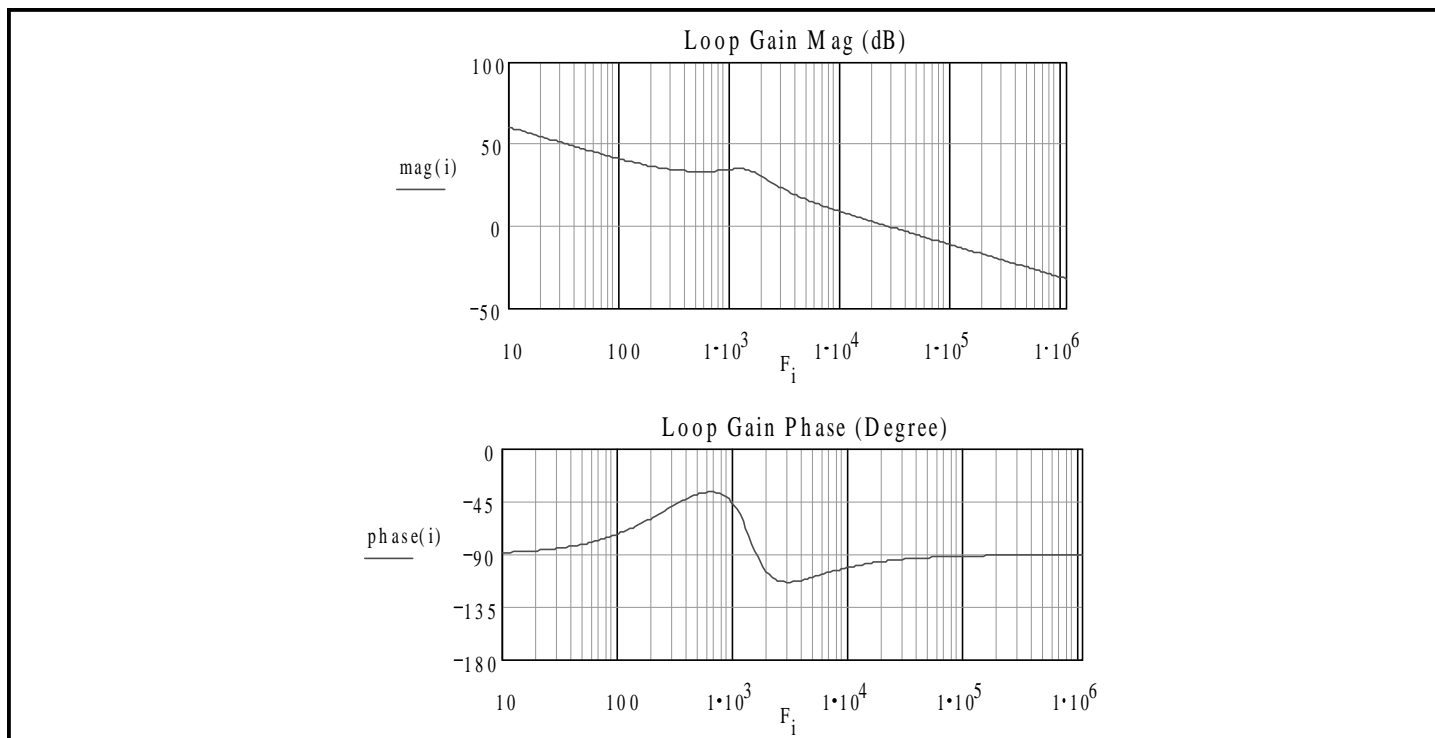

Fig. 2. Bode plot of the loop
Step 6. Generate Bode plot and check the phase margin. In this case, the phase margin is about 85°C that ensures the loop stability. Fig. 2 shows the bode plot of the loop.